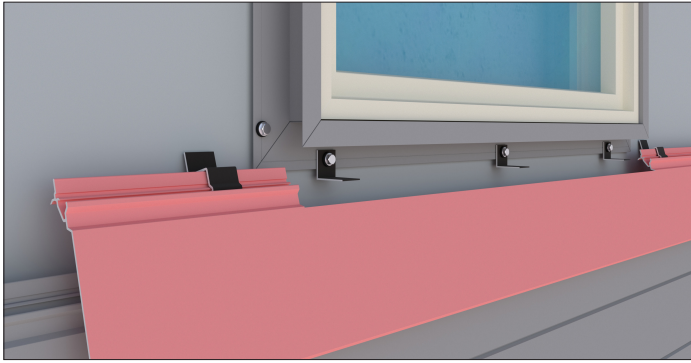

Figure 3.1
3. Notch your chosen plank to slide into the installed **General J Trims** under the sill of the window (Figure 3.1 and 3.2).